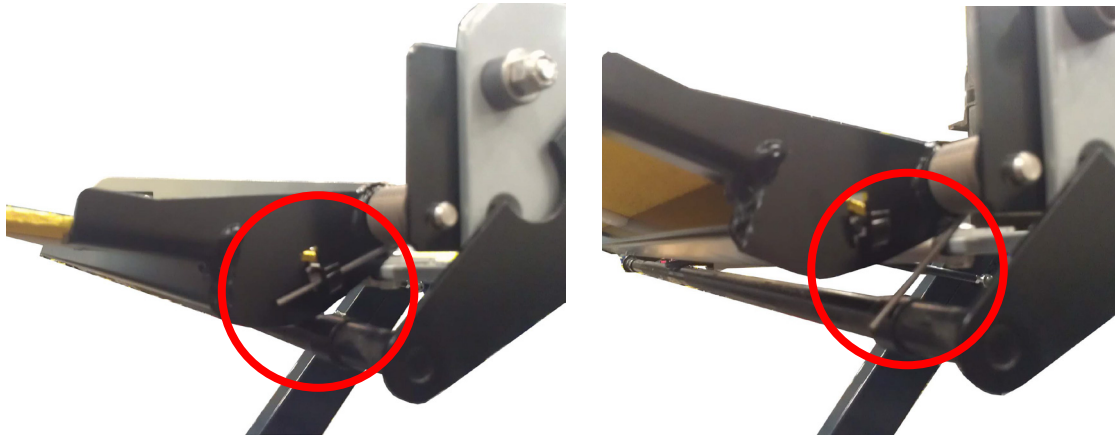

FIGURE 4-25A AND 4-25B. DETACH LH AND RH BRIDGEPLATE TORSION SPRINGS
- 2) Refer to **Figure 4-25A** and **4-25B**. Detach LH and RH bridgeplate torsion springs.